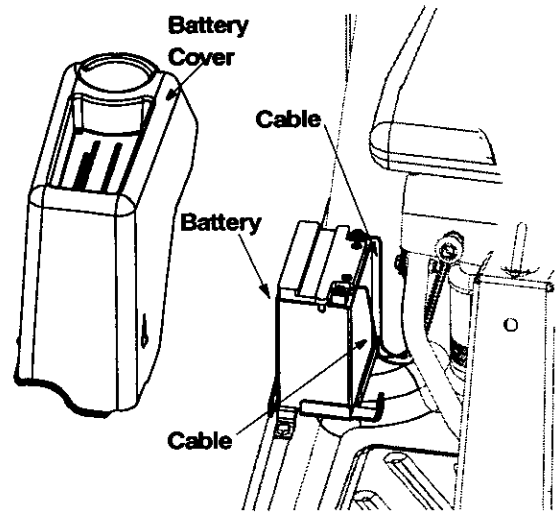

Figure 16
4. Attach the red battery cable to the positive terminal (marked +), and the black battery cable to the negative terminal (marked -) on the battery. See Figure 16 .
5. Align the cables with the slots in the battery cover and tighten the screws on the battery terminals. See Figure 16 .